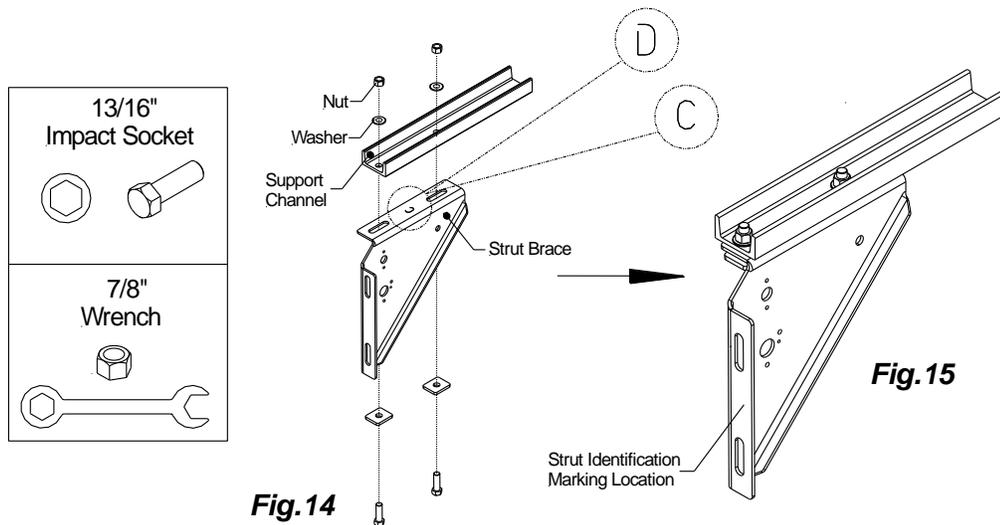

**Fig.13**
1. **Dock Bumpers:** Use four (4) bolts and four (4) nuts to mount the dock bumper to the bed extension. **Fig.13.** Torque nuts to 125 ft. /lbs. minimum. Make sure the dock bumper is properly squared. **Recommendation:** It is highly recommended to lubricate all bolts and nuts prior to installation.